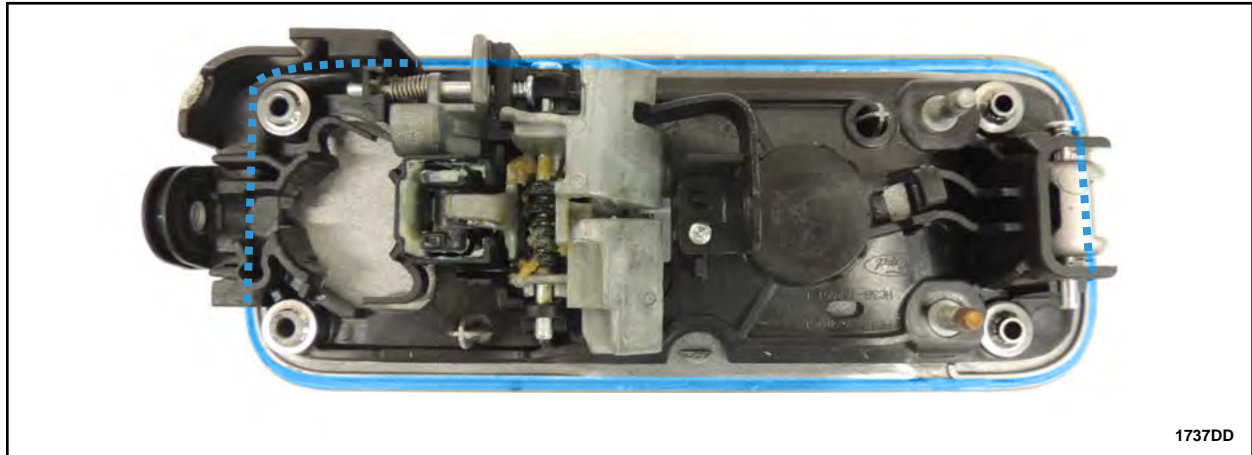

FIGURE 89
19. Using a clean shop cloth and isopropyl alcohol, clean the highlighted mating surface area of the exterior door handle. See Figure 89.